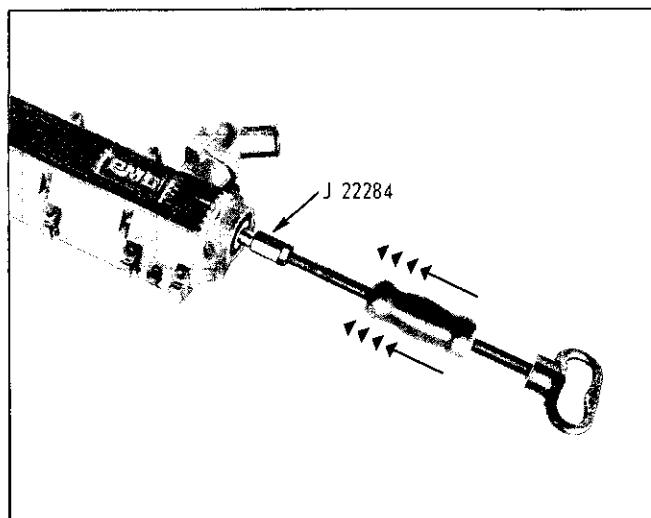

Fig. 6-15 Removing Camshaft From Cover
3. Using J 22284 adapter and slide hammer J 2619 carefully drive camshaft rearward from rocker arm cover (Fig. 6-15).